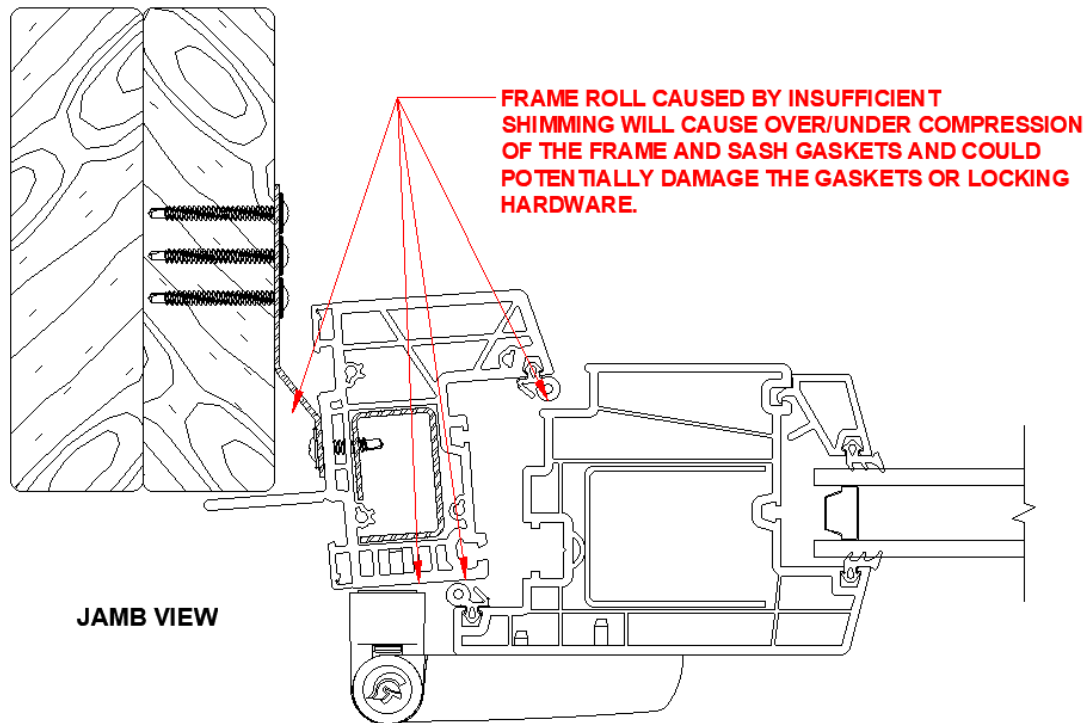

Figure 12: Jamb View: Steel Strap Door with Frame Roll
D) *Figure 12* below shows a door that lacks proper shimming and is experiencing frame roll. Over shimming will create the same effect in the opposite direction. Shimming the door